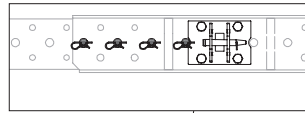

Fig. B3.01a
1. Position the coupling connection (**14a**) between the two ribs in the telescopic arm guide. (Fig. B3.01a)